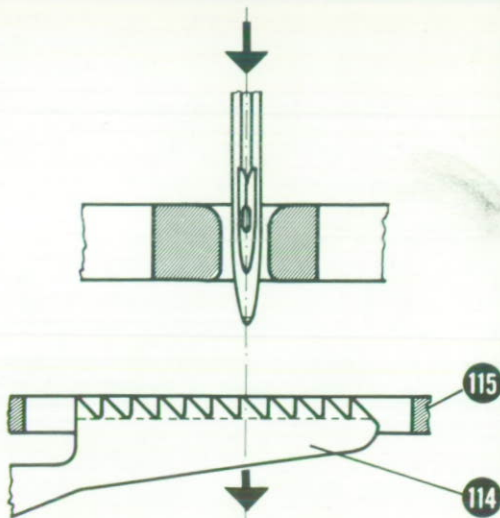

Fig. 42
The lift and descent of the feed dog (114) must be correlated to the movement of the needle so as to take place at the correct time. With the base cover plate (117) in position, turn the machine until the upper edge of the eye of the needle is in line with the upper edge of the needle plate. At that moment the upper edge of the teeth must also be in line with the upper edge of the needle plate, with the feed dog descending (Fig. 42).